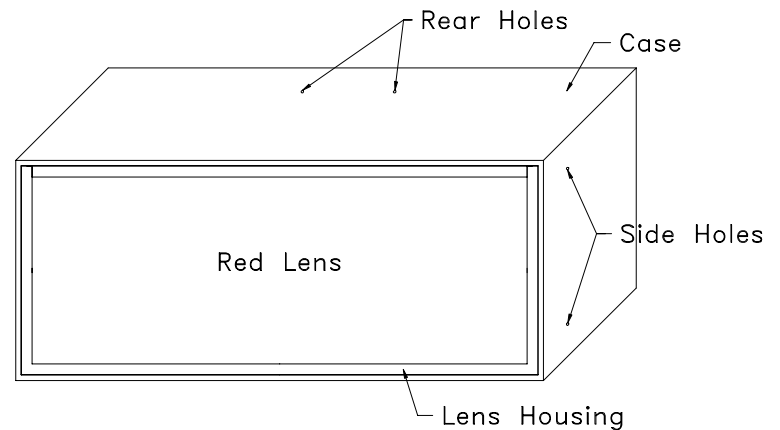

Figure 6 - Hole Locations
1. Thread four #8 self-tapping screws into the four side holes in the case using the hex driver (see Figure 6). Under the surface, the holes are much larger, and should thread easily once the screws are started. Once the screws have started, thread them down approximately three turns.
- Thread four #8 self tapping screws into the four side holes (see Figure 6) on the case. Under the surface, the holes are much larger, and should be threaded easily once the screws are started. Thread them down until the heads of the screws are just touching the case.